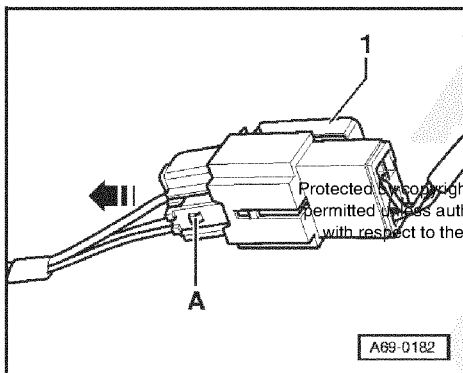

Fig.2 Detaching connector for side airbag as of MY 1999
- Detach ignition and earth wires from side airbag as of MY 1999 => Fig. 2